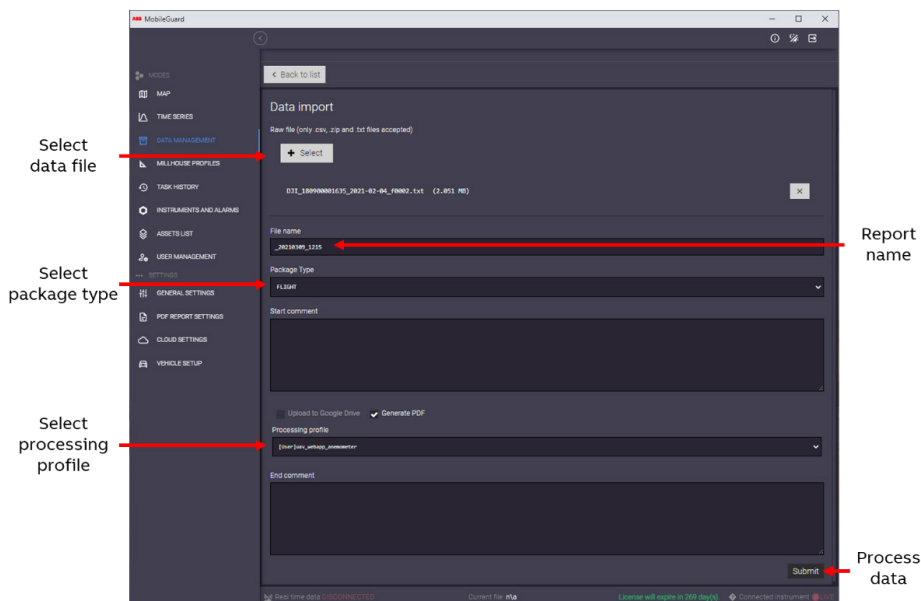

Figure 134 Report Processing Parameters
- 4 Set the report properties (Figure 134):